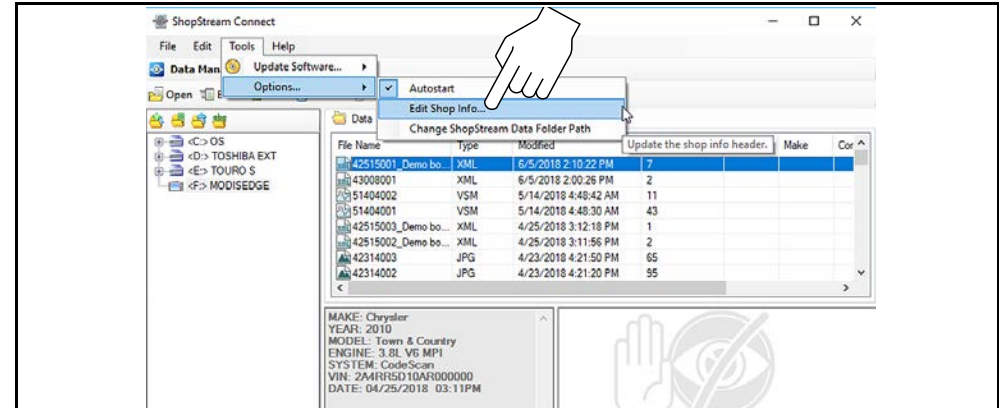

Figure 18-9
1. From ShopStream Connect, select **Tools > Options > Edit Shop Info** (Figure 18-9).